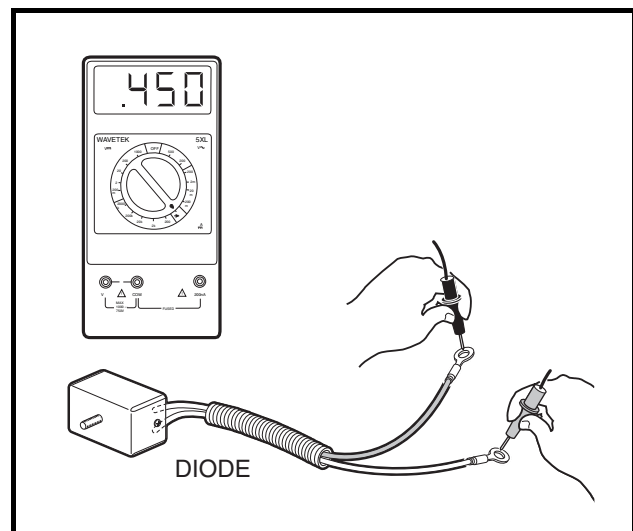

Figure 11-21 Diode Test – Probes Reversed
5. Reverse the multimeter probes and note the reading. With the black (–) probe of the multimeter to the red lead of the diode and the red (+) probe of the multimeter to the white lead, the meter should read approximately 450 mV, however, a range of 400-500 mV is acceptable (**Figure 11-21, Page 11-21**).